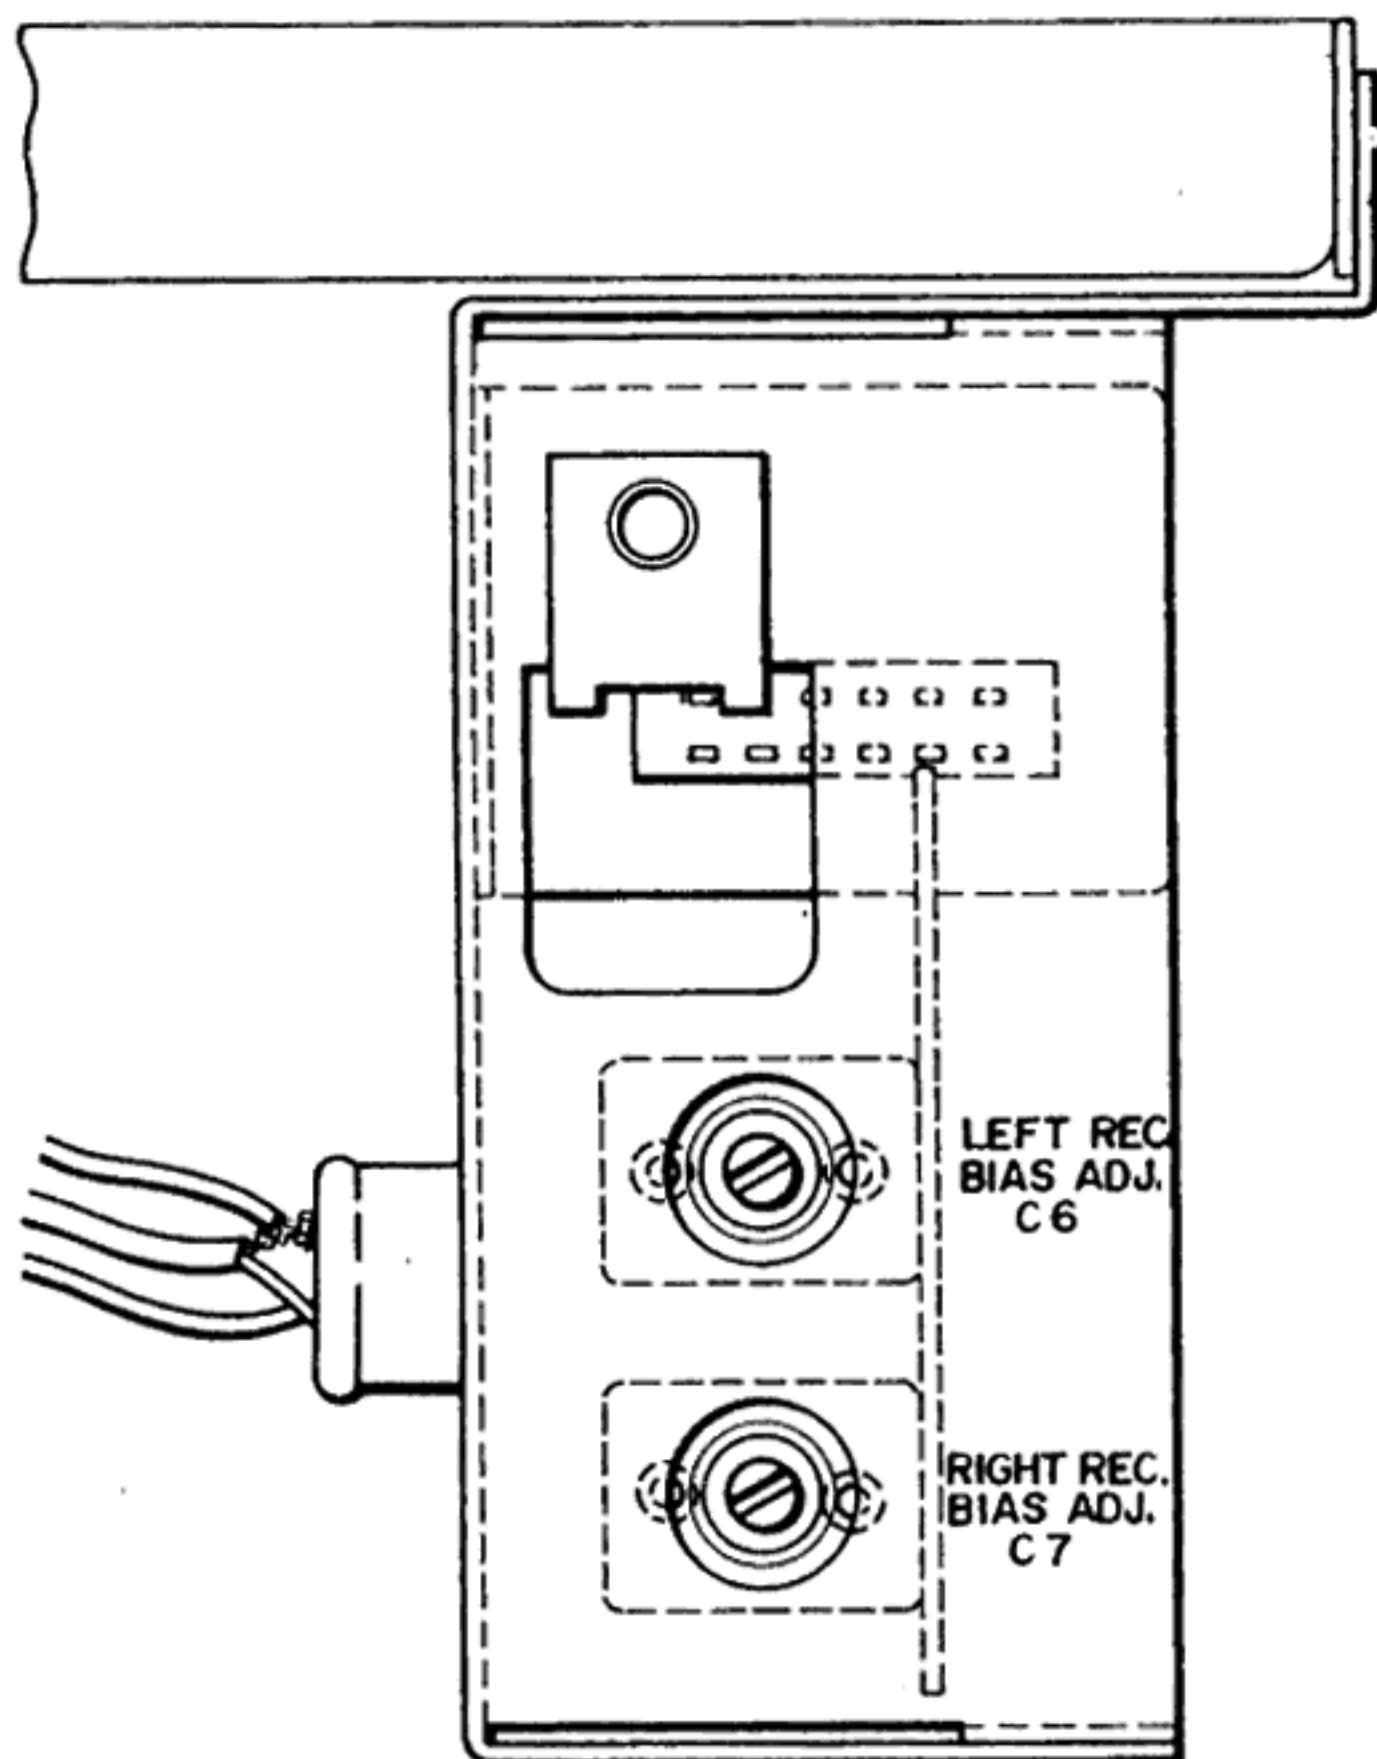

Fig. 15
4. RECORDING BIAS VOLTAGE ADJUSTMENT (FREQUENCY RESPONSE ADJUSTMENT) (See Figs. 15, 16)